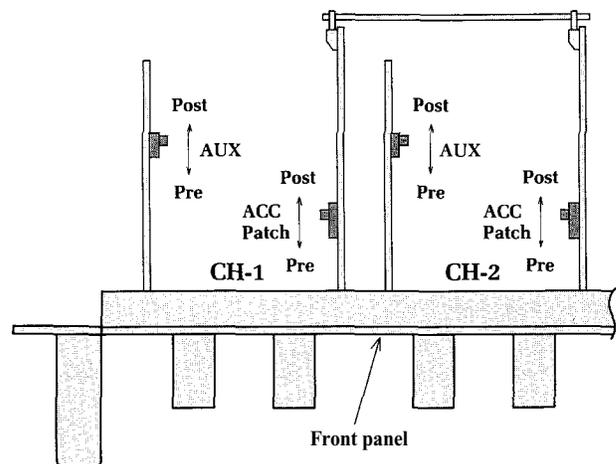

Fig.2
3. Refer to block diagrams and Figure 2 for location and orientation of switches.